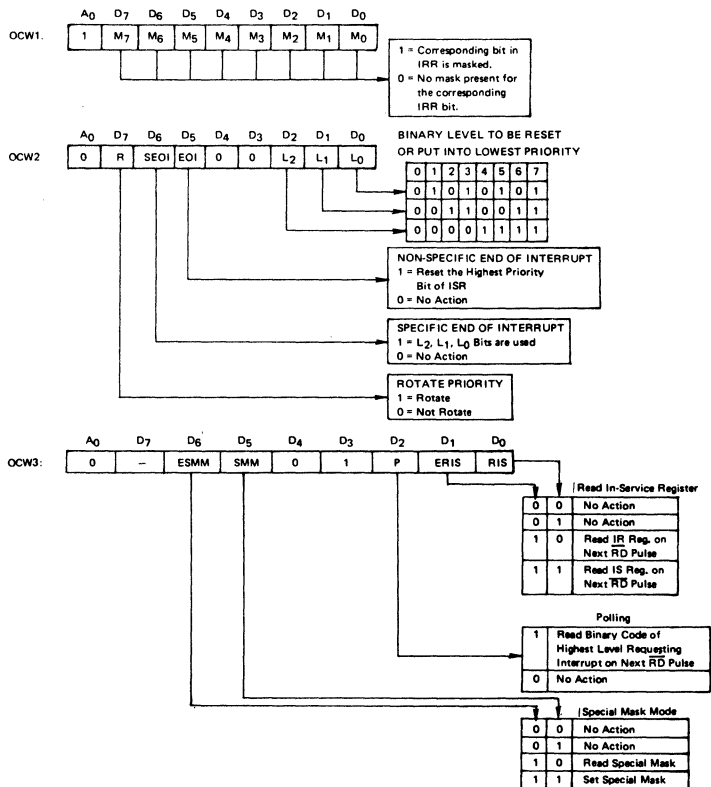

FIGURE 3
② Reference Figure 3
Programming the Auto Rotate Mode through OCW2 assigns priorities 0-7 to the interrupt request input lines. Interrupt line IR₀ is set to the highest priority and IR₇ to the lowest. Once an interrupt has been serviced it is automatically assigned the lowest priority. That same input must then wait for the devices ahead of it to be serviced before it can be acknowledged again. The Auto Rotate Mode is selected by programming OCW2 in the following way (refer to Figure 3): set Rotate Priority bit "R" to a logic "1"; program EOI to a logic "1" and SEOI to a logic "0." The EOI and SEOI commands are discussed further on. The following is an example of the Auto Rotate Mode with devices requesting interrupts on lines IR₂ and IR₅.